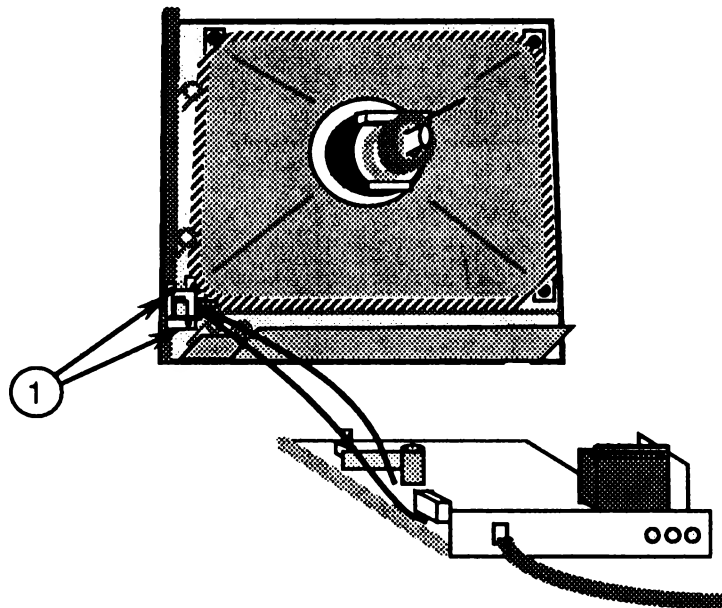

FIGURE 38
- a) Remove the two screws (Figure 38, #1) that secure the on/off switch bracket to the front bezel.